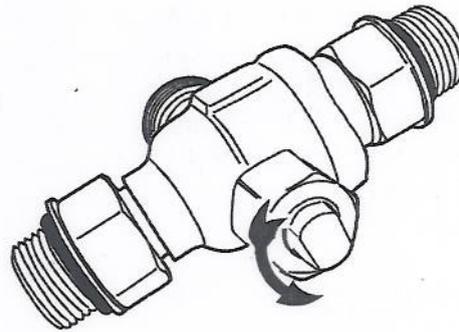

FIG. 22 – DUAL OIL FILTER ISOLATION VALVE
1. Isolate the left hand filter by turning the valve stem parallel with the valve body. 90° counter clockwise. Refer to Figure 22.